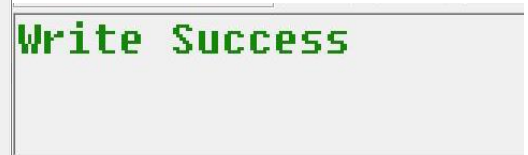

Figure 13
3.8 After selecting the configuration file, wait until the prompt "Write Success" is displayed, indicating that the programming of the module is complete (as shown in Figure 13)